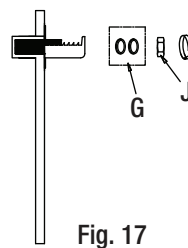

Fig. 17
- Secure and tighten the nut (J) on brass assembly using one or 2 of the stainless steel washers (G), if required, see Fig. 17.
- Bracket (H) allows for mounting this unit on flat walls or on walls that have a shower surround or tiles with a step of up to 1 1/2" (38 mm).